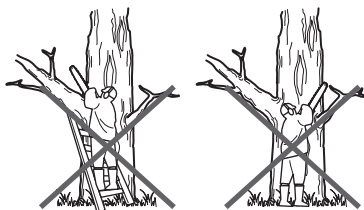

Fig. 31
- > Do not operate the product with your arms fully extended or attempt to saw areas which are difficult to reach, or while on a ladder. Never use the product above shoulder height (Fig. 31).